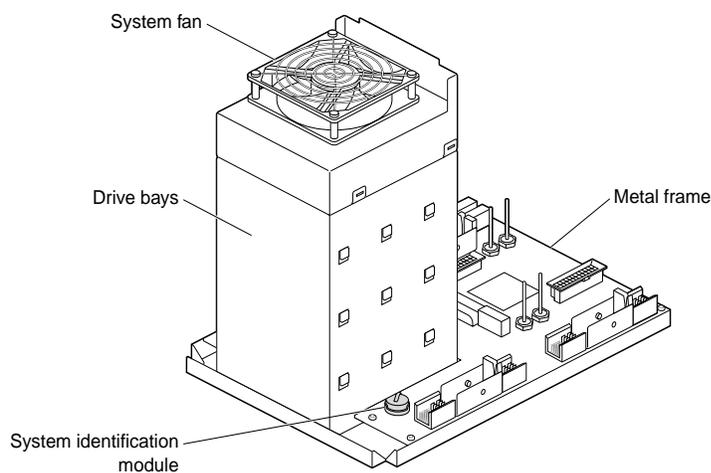

Figure 7-24 Placing the Frontplane Module Face Down on a Clean Surface
4. Gently place the frontplane module face down on the antistatic bag, as shown in Figure 7-24